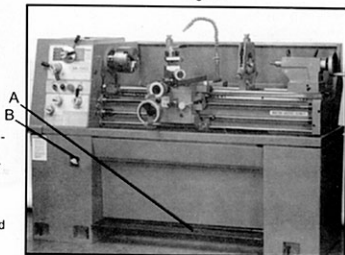

Fig.14
21. **Foot Brake** (A, Fig. 14)- located between stand pedestals. Dwpres to stop all lathe functions.
23. **Two Speed Motor Switch** (B, Fig. 14) located on front of the left base pedestal. Position one is for high speed. Position two is for low speed. Position zero is neutral and the spindle will not turn. **Note:** Check this switch and make sure position one or two is selected if the lathe will not run.